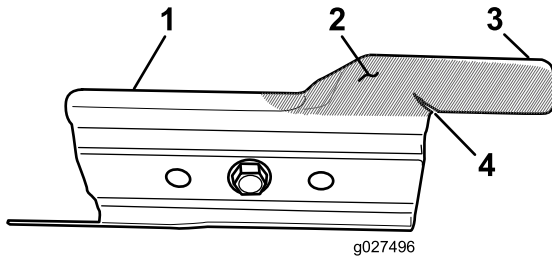

Figure 26
Carefully examine the accelerator for excessive wear (Figure 26). Because sand and abrasive material can wear away the metal (especially in the area shown as item 2 in Figure 26), check the accelerator before using the machine. If you notice that a tab on the accelerator has been worn down to a sharp edge or there is a crack, replace the accelerator.